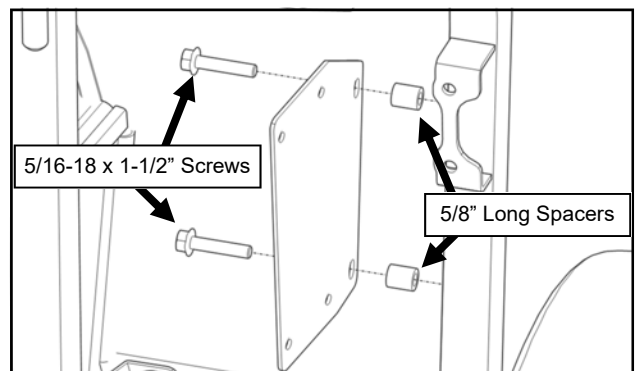

Fig. 17.1 (Install Heater Bracket to A-Pillar)
- 17.1** Attach the heater bracket to the right A-Pillar with 5/8" long spacers. See Figure 17.1. Tighten hardware.